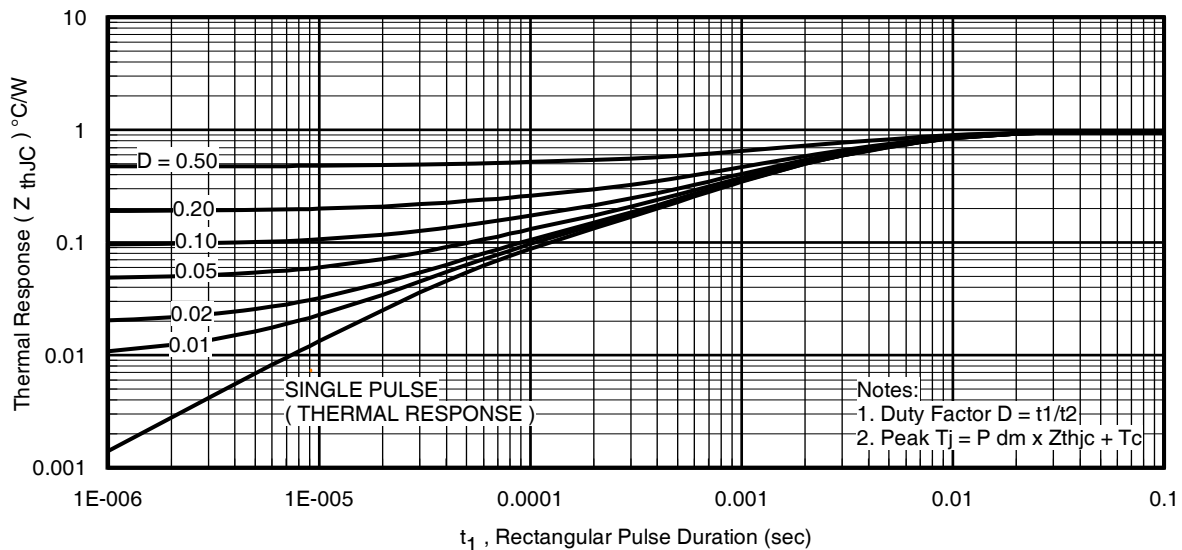

Fig 11. Maximum Effective Transient Thermal Impedance, Junction-to-Case
- ① Repetitive rating; pulse width limited by max. junction temperature. (See fig. 11).
- ② Limited by T_{Jmax} , starting $T_J = 25^\circ\text{C}$, $L = 0.24\text{mH}$, $R_G = 50\Omega$, $I_{AS} = 40A$, $V_{GS} = 10V$. Part not recommended for use above this value.
- ③ Pulse width $\leq 1.0\text{ms}$; duty cycle $\leq 2\%$.
- ④ $C_{oss \text{ eff.}}$ is a fixed capacitance that gives the same charging time as C_{oss} while V_{DS} is rising from 0 to 80% V_{DSS} .
$Z_{thJC}(D, t_{av})$ = Transient thermal resistance, see figure 11)